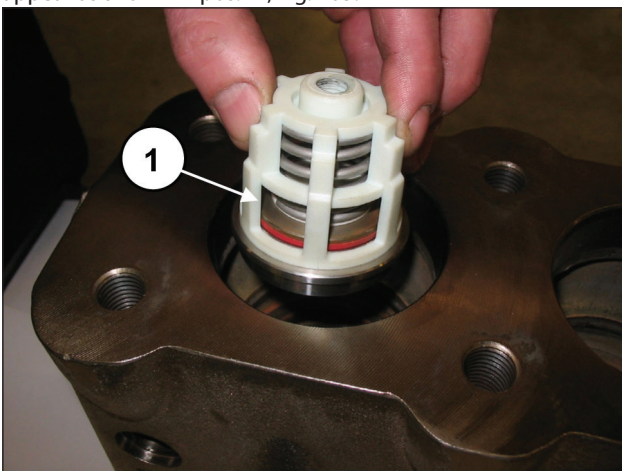
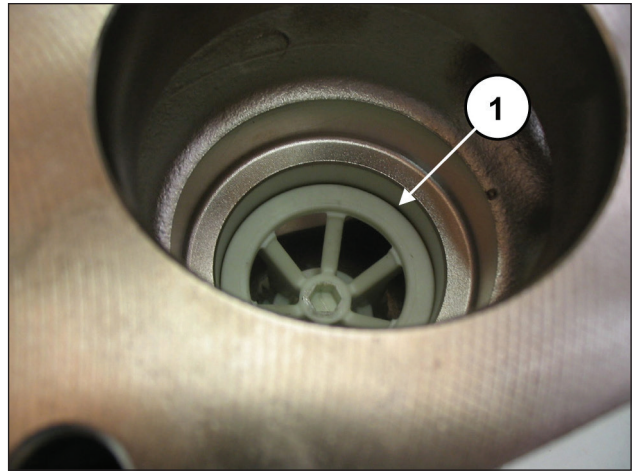

Fig. 104
Fig. 105
Insert the suction-outlet valve unit (pos. ①, Fig. 104) and then the spacer (pos. ①, Fig. 105).
The complete valve unit must be driven fully home and should appear as shown in pos. ①, Fig. 105.